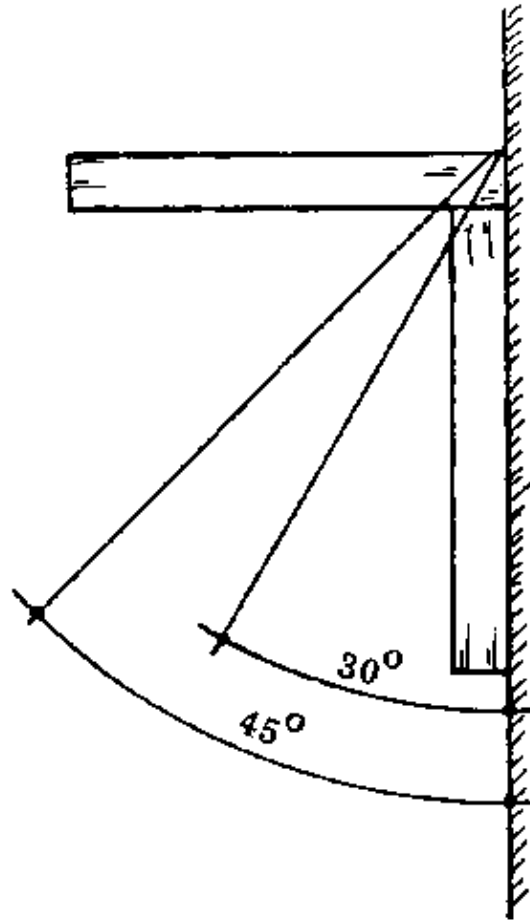

Fig. 3
– **ERECTING THE SCAFFOLD:** Hold the jack with its wall leg against the wall, and fit the prop into the corner of the jack. Set the foot of the prop securely in the ground. The other jacks are set up in the same way. Check that all three are at the same height and the distance between them is not more than 2 m. The angle between the prop and the wall should be no less than 30 degrees and no more than 45 degrees (Fig. 3). In soft soil, sole plates must be set under the feet of the props.